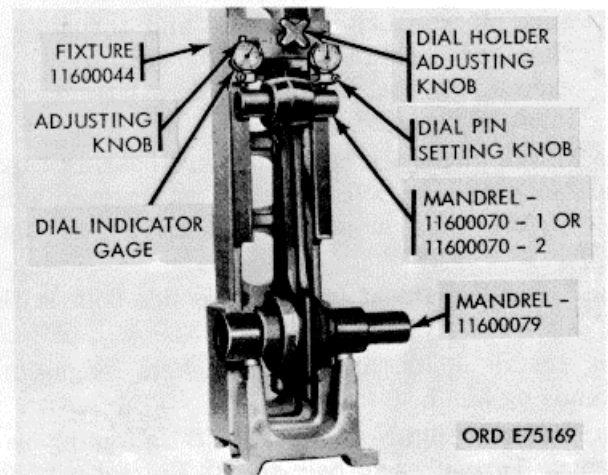

Figure 3-10. Connecting rod check.
not exceed wear limits shown in repair and build standards in paragraph 3-178. f. Check connecting rod piston pin and bearing bore alignment, rod twist, and rod centerline (fig. 3-10) in rod checking fixture (40, fig. B-28). Calibrate fixture, before checking rod, as foil (1) Select a new rod that has been checked for correct absolute length. (Production rods vary from 8.192/8.194 inches in length.)
(2) Assemble cap to rod and tighten nuts to proper torque (para. 3-186).
(1) Attach dial indicator gage to fixture (fig. 3-10) so that it will contact the milled surface of piston pin end of rod.
(2) Slide crankpin end of rod sideways to contact checking fixture on same side that dial indicator is mounted.
(3) Adjust indicator gage to zero reading. Turn Rod 180 degrees and repeat step (2) above. Dial indicator reading must not exceed 0.015 inch.